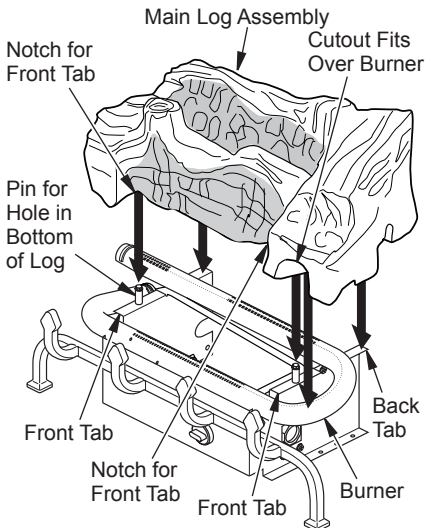

Figure 18 - Installing Main Log (#1)
1. Place main log assembly (#1) onto base. Cutout on front right will fit over burner (see Figure 18). Holes in bottom of log must seat over pins on base as shown in Figure 18. Make sure back of log as-